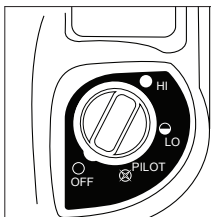

Figure 1: Control Knob
- Make sure the four-position Control Knob is in "OFF" position (see Figure 1).